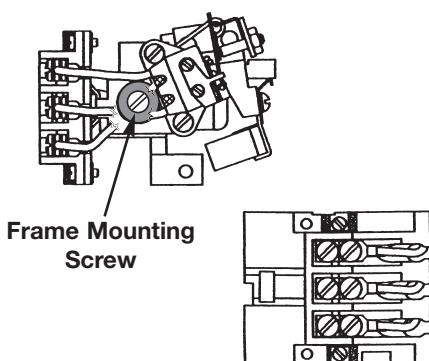

Figure 3
2. Loosen the frame mounting screw on each switch mechanism. Refer to Figure 3.